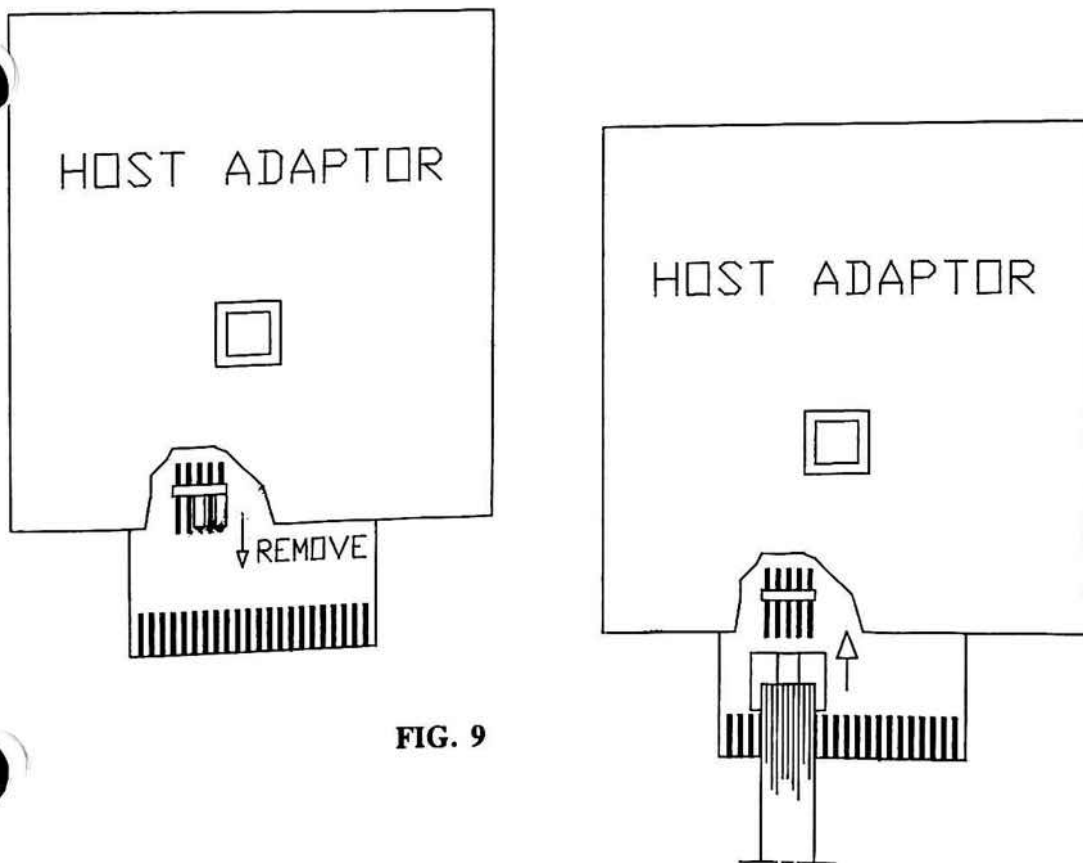

FIG. 9
Step 9 - Locate the HOST ADAPTOR and remove the two jumpers on plug P1 as they will not be used in your C-128 installation. Push the remaining end of the C-128 CABLE onto plug P1 again with the flat ribbon coming out on the top side of the connector. The HOST ADAPTOR may now be inserted into the EXPANSION connector on the rear of your C-128. Dress or position the flat cable so it will allow you enough slack to remove your HOST ADAPTOR if necessary. Refer to FIG 9.